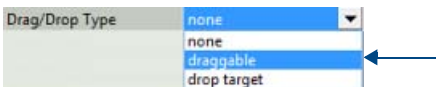

FIG. 232 TPDesign5 General Properties - Drag/Drop Type set to "draggable"
- Set the button's *Drag/Drop Type* (General) property to **draggable** (FIG. 232):